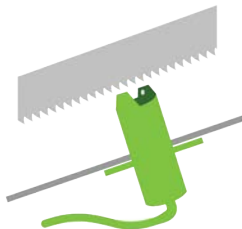

Figure 30: Saw blade nozzle
- 👍 Specialty nozzles, such as those for saws, are also available and are more effective and less intrusive. For example, the nozzle shown in Figure 30 packages three outputs that coat the sides of the blade and the gullet of the teeth in a single compact unit. On band saws with guide lube points, an MQL output can also be attached to this to ensure the blade has adequate lube throughout its path.